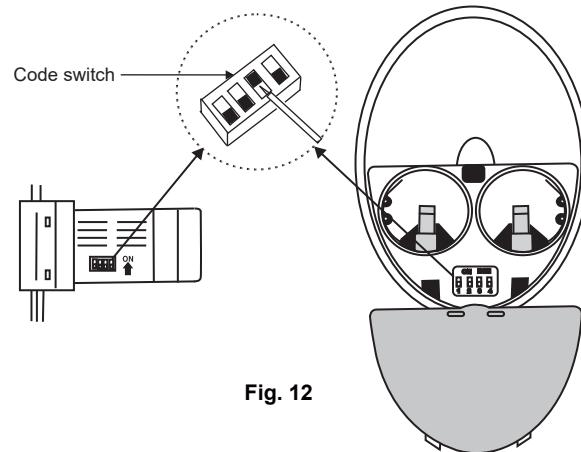

Fig. 12
**NOTE:** The CoolTouch™ Control System is equipped with 16 possible frequency combinations to prevent interference from or with other remote control units. The frequency switches on your receiver and transmitter have been preset at the factory. Please recheck to make sure the switches on transmitter and receiver are set to the same position, any combination of settings will operate the fan as long as the transmitter and receiver are set to the same position. (**Fig. 12**)